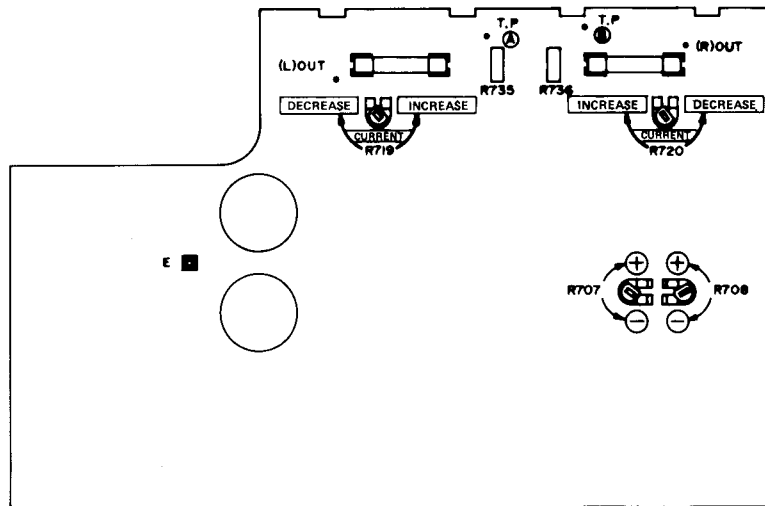

Fig. 9
1. Adjustment of the center voltage of the power amplifier (see Fig. 9).
2. Adjustment of the idling current of the power amplifier (see Fig. 9).